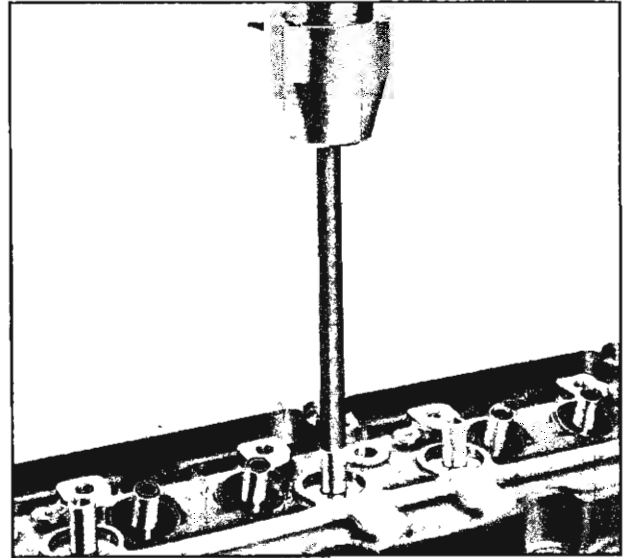

Fig. 10—Removing Valve Guide
1. Place the cylinder head on the table of an arbor press and press the old valve guides out using removed Tool J-5600 (fig. 10).